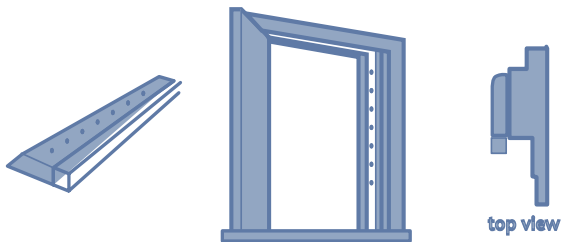

Figure 17: Foam rubber with wood backing.
- **Foam rubber with a wood backing** should be positioned so that the foam fits snugly against the door when it's closed, (Figure 17).